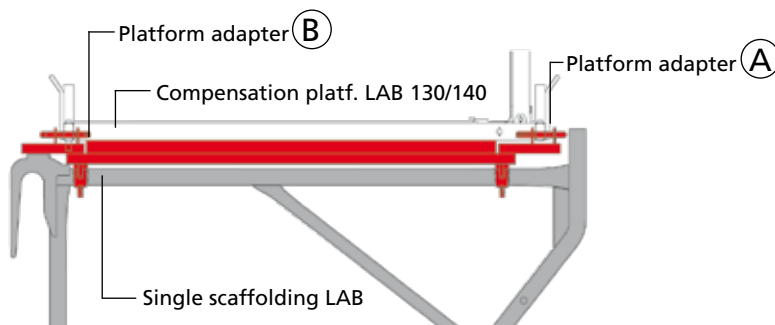

Fig. 31.3
Mounting a 2nd combi ledger and a 2nd single scaffolding bracket turns the compensation bracket into a complete working platform 130/240. The required bracing can be achieved with scaffold tubes and couplers (2 horizontal and 1 diagonal). The platform adapter (B) must be located behind the suspension hook (Fig. 31.3).